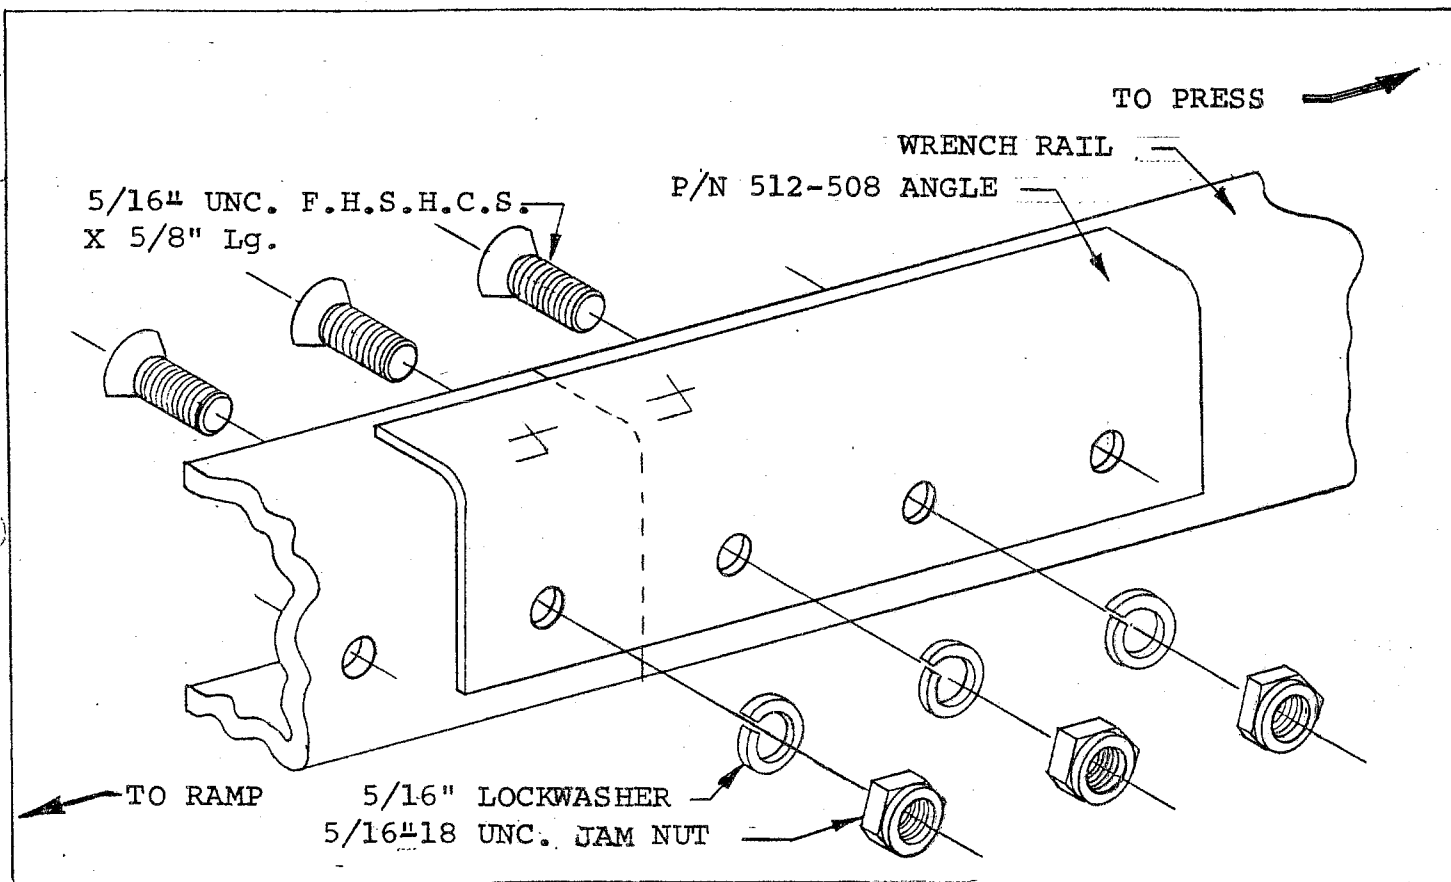

FIGURE 4
Once the first wrench rail has been positioned, each section may be added along the length of the assembly. The connections are made using rail tabs (P.N. 512-508) and 5/16"-18 UNC flat head cap screws X 5/8" lg. with lockwashers and jam nuts. (SEE FIGURE 4)
WHEN CONNECTING THE RAIL TABS TO THE RAILS, ONLY THREE (3) OF THE FOUR (4) HOLES ARE USED. EACH TAB IS OFFSET ONE (1) HOLE POSITION TOWARDS THE PRESS FRAME SO THAT IT DOES NOT BLOCK THE LIFTING LINKS. (SEE FIGURE 4)